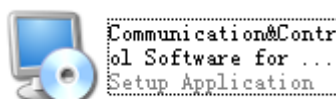

Fig 1-1
**Step one :** Insert the CD-rom supplied with your oscilloscope into the CD-Rom drive of the computer. Wait for the system to read and find the oscilloscope communication and control software contents (Fig. 1-1).
**Step two :** Double left click the mouse to run the oscilloscope communication and control software installation as shown in Fig 1-1.